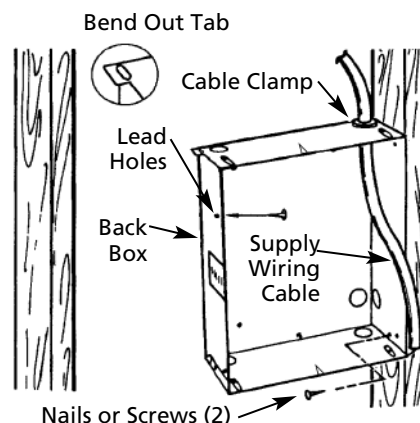

Figure 2
1. Determine which side of the back box is to be mounted against a stud and bend the tabs at the rear corners out 90 degrees so that the back box will be square with the stud after installation (See Figure 2).
3. Position back box against side of studs and secure using nails or screws as shown in Figure 2.
(m4) sheet metal screw (recommended 1" long) through the side of the box not mounted to the stud. This will prevent the back box from pulling out when installing the heater assembly. (See Figure 2)